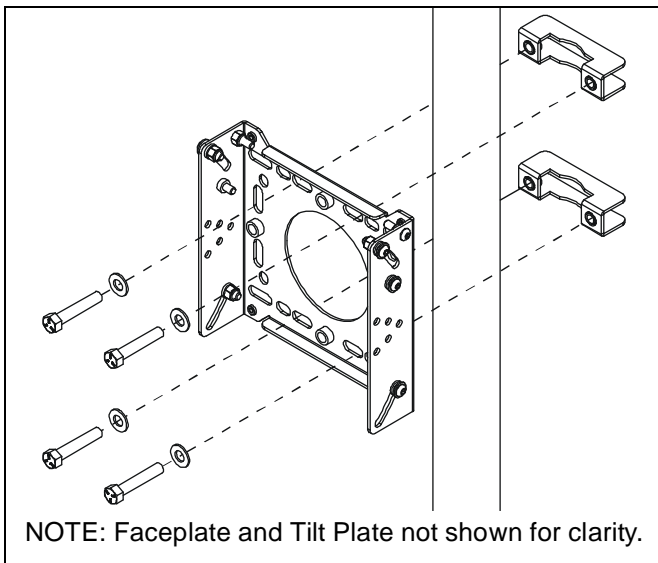
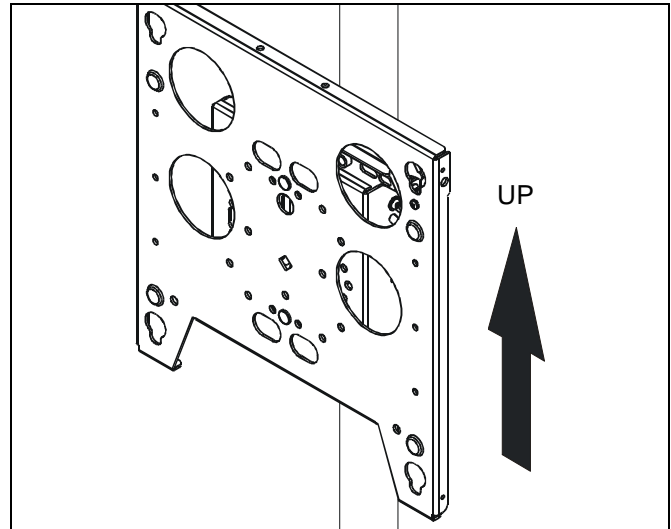

Figure 2: Vertical Pole Installation (Typical)
Figure 4: Vertical Mount Orientation
- Vertical Pole: Use optional Chief Pole Kit TPK-1 (for 1"-2" O.D. poles) or TPK-2 (for 2"-3" O.D. poles) (see Figure 2). Ensure mount is properly oriented (see Figure 4).